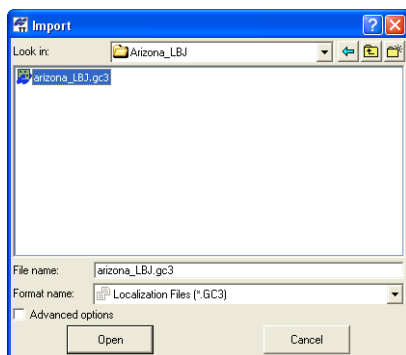

Figure 3-23. Import Localization File
4. Click **Open** to import the file (Figure 3-23 on page 3-23).